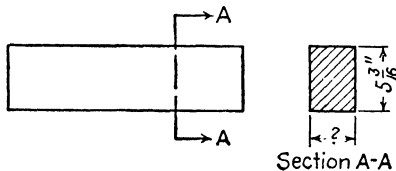

Fig. 70.
6. What must be the width of a rectangular beam whose cross-sectional area is 16.375 sq. in., and whose length is $5\frac{3}{8}$ in. as shown in Fig. 70?